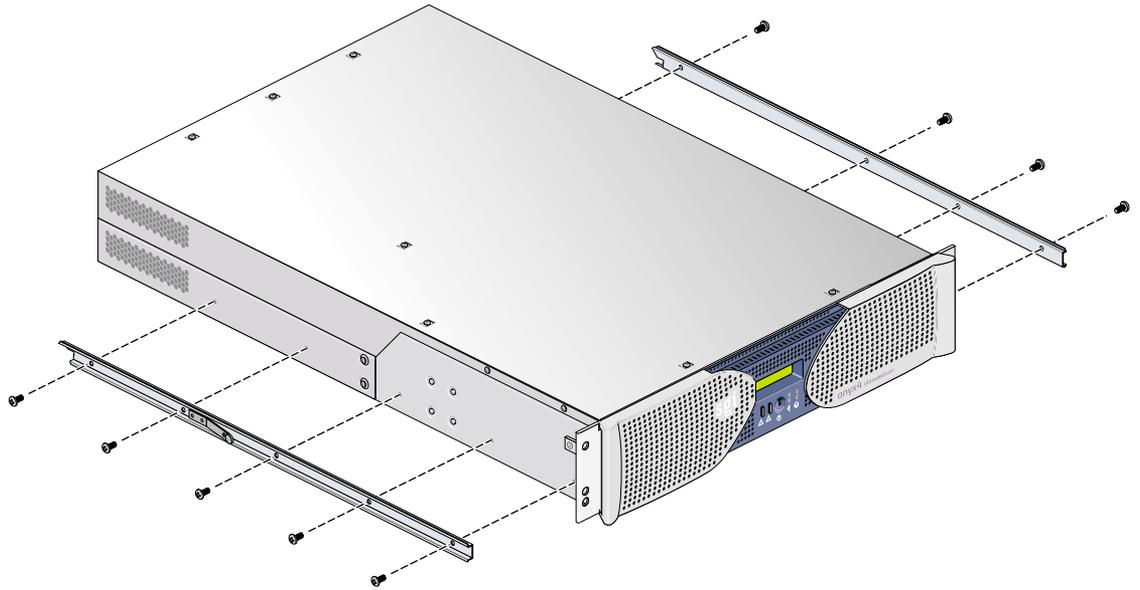

Figure A-14 Removing Chassis Rails from the Brick
6. Remove the optional chassis rail by unscrewing the five Phillips screws (see Figure A-14).
5. Replace the optional chassis rail (if applicable) by screwing in the five Phillips screws (see Figure A-14).